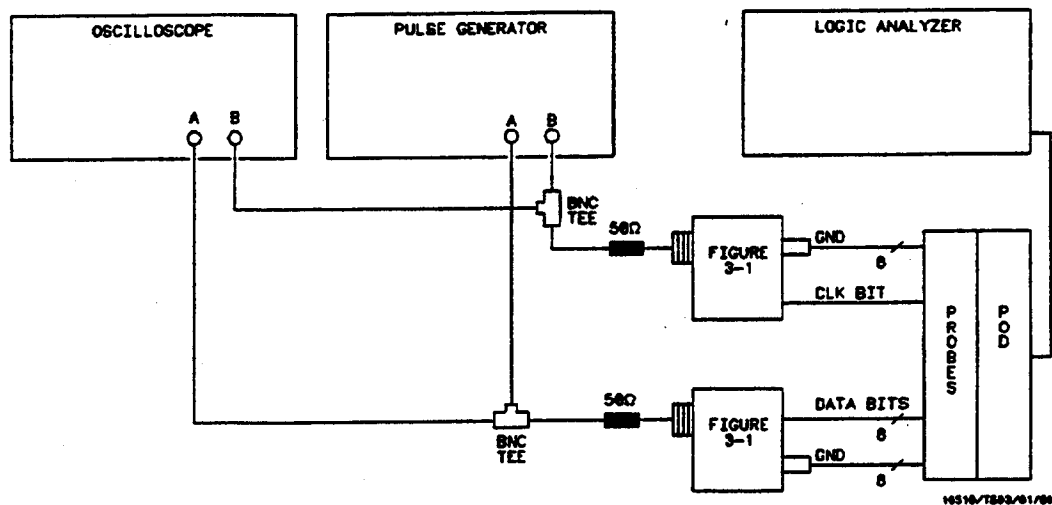

Figure 3-19. Equipment Setup For Test 4
1. Connect the HP 16510B and test equipment as in figure 3-19.